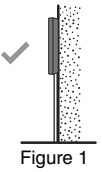

Figure 1
- Be sure to install the Unit on the wall as illustrated in Figure 1 (vertical condition only).